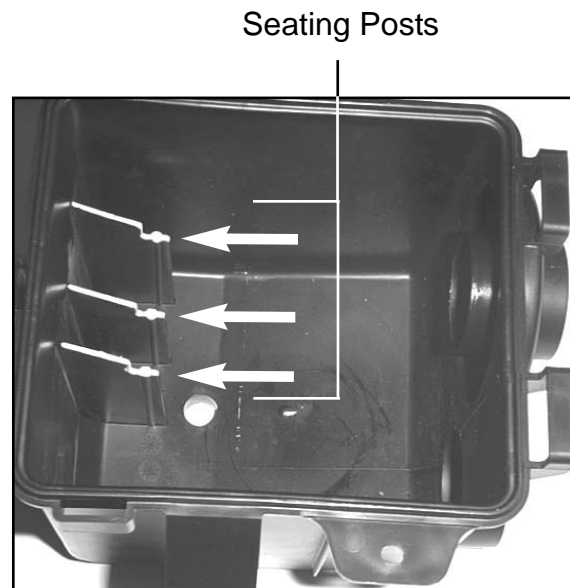

Fig. 2
3. Install the K&N Filtercharger® making sure it is seated properly onto the seating posts. (Fig. 2)